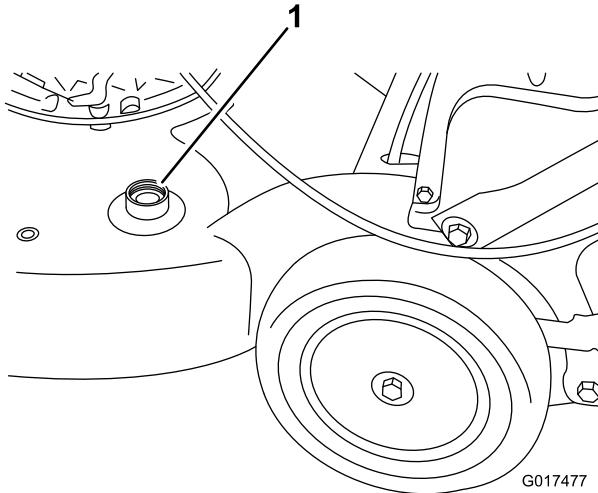

Figure 41
3. Attach a garden hose that is connected to a water supply to the washout port on the machine housing (Figure 41).